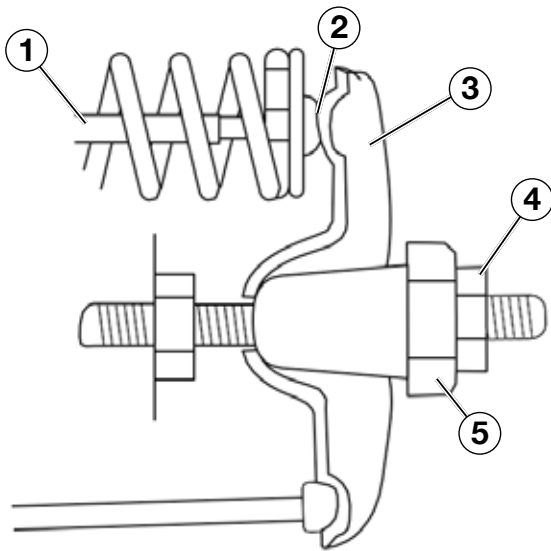

Figure 25
5. Insert a feeler gauge between the rocker arm and the push rod and check for clearance (see Figure 25). See Table 2 for valve lash specifications